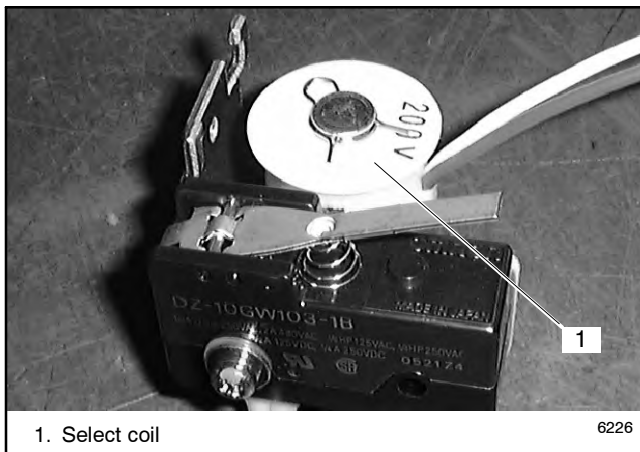

Figure 7-20 Select Coil
4. Replace the select coil. See Figure 7-20.